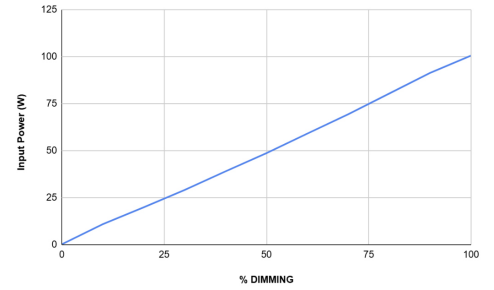

FIG. 44
15. The performance graph (Fig. 44) shows the expected dimming response curve. This measurement was taken using five 20W AQL-882 fixtures (100W total) and represents typical performance.